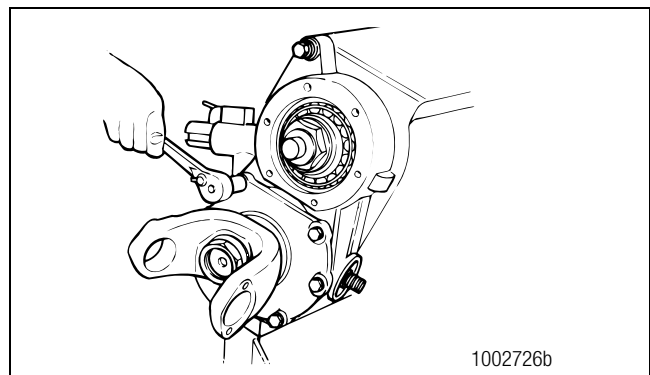

Figure 3.22
5. Remove the capscrews and washers that fasten the input bearing cage to the differential carrier. Figure 3.22.